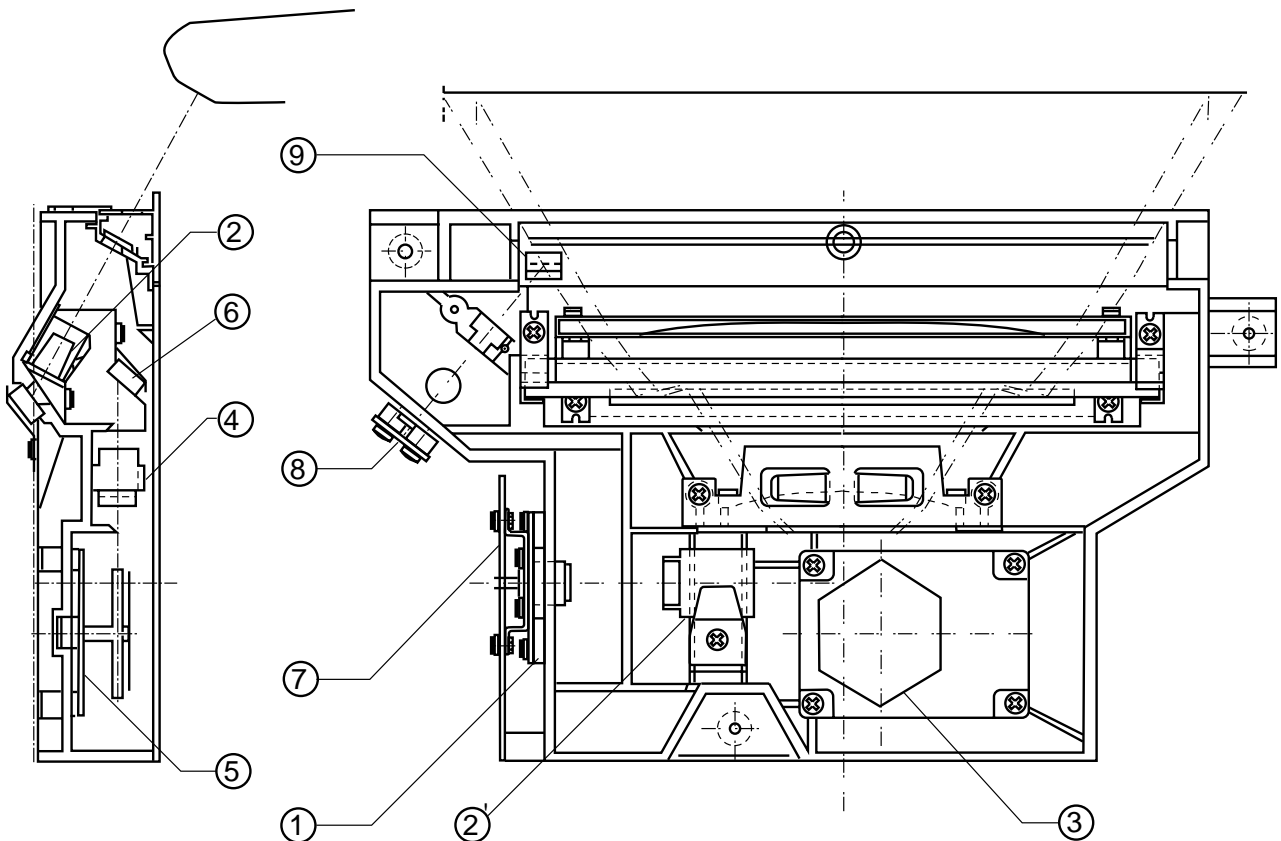

Fig.4-23
(1). Structure of Optical System (Fig.4-23)
Optical unit is located as shown in Fig.4-23.
(2). Structure of of Paper Transportation System (Fig.4-23)